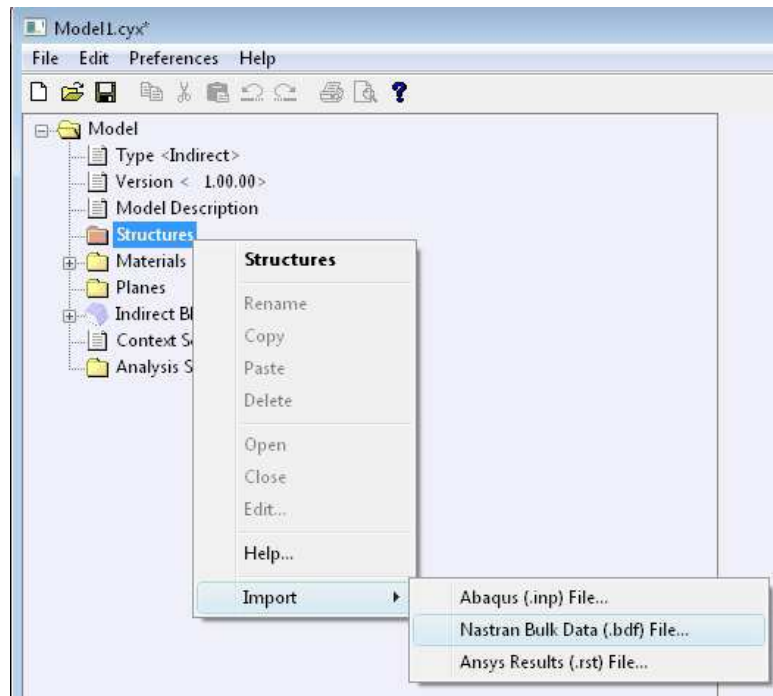

Figure 9.29: Import a finite element structure mesh.
- Right-click on **Structures** and select: **Import** → **Nastran Bulk Data (.bdf) File...** (as shown in Figure 9.29) to import mesh from Nastran bulk data format. The FE meshes from Abaqus and Ansys data formats can be imported by selecting **Abaqus (.inp) File** or **Ansys Results (.rst) Files** respectively.